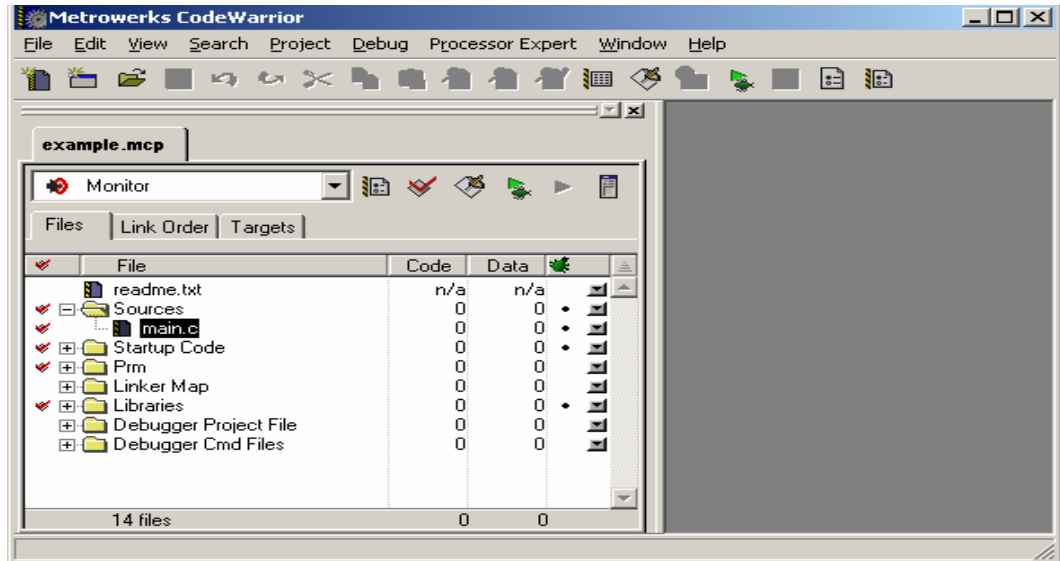

Figure 10
- **Figure 10**-This is your new project window. Expand the **Sources** folder by clicking on the [+] and double click on **main.c**